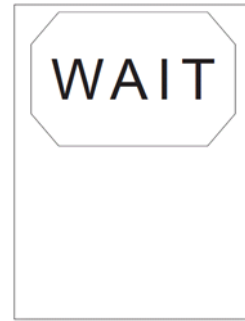

Fig. 18
- (1) When the system displays an incorrect aircraft type, or when such a message as "STOP", "ID", "FAIL", or "WAIT" appears on the display screen, the pilots should stop the aircraft immediately. (Fig.4, Fig.14, Fig.18)